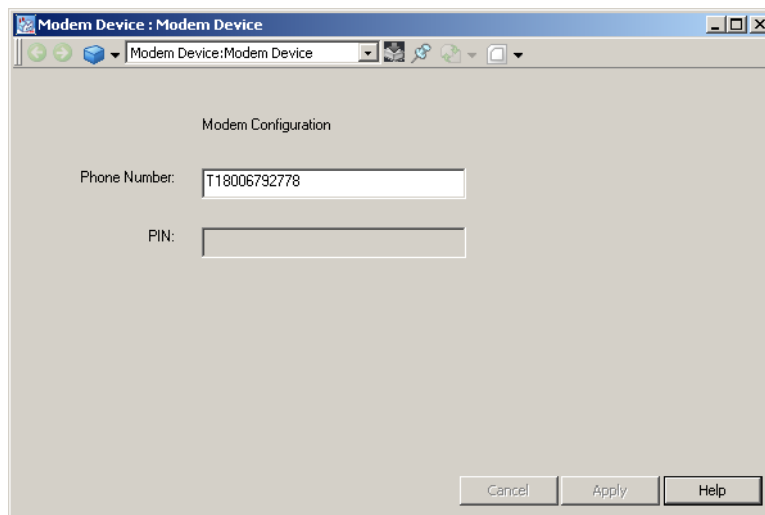

Figure 96. Modem Device
3. Right-click **Modem Device, Aspect Category** and select **Modem Device** from the context menu that appears. This opens the Modem Device shown in Figure 96.